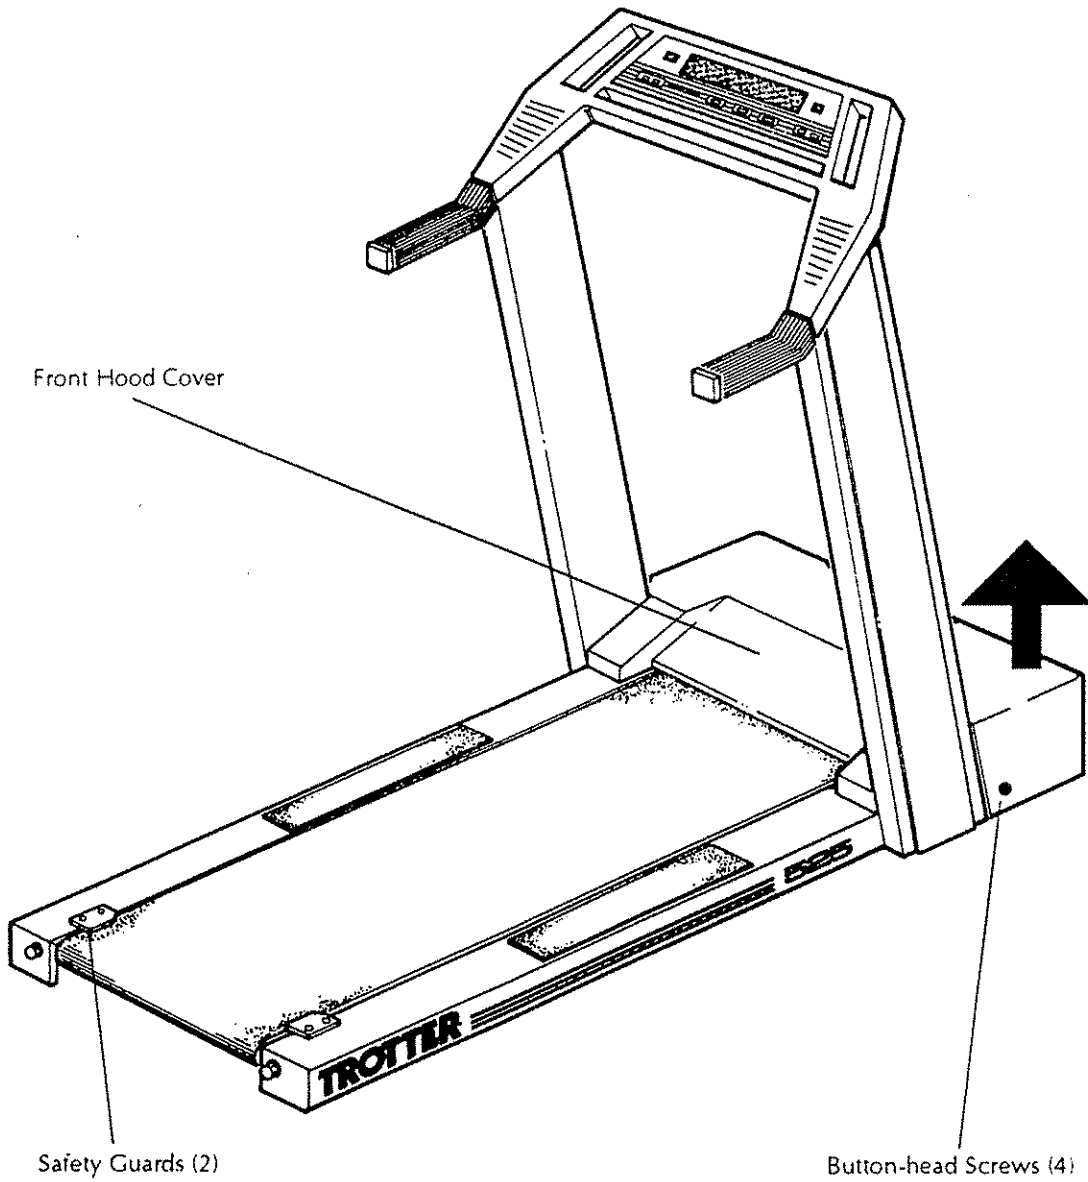

Figure 3-3: Removing/Replacing the Front Hood Cover
3. Remove the front hood cover. Refer to Figure 3-3 and complete the following:
5. Install the front hood cover. Refer to Figure 3-3 and complete the following:
2. Remove the front hood cover. Refer to Figure 3-3 and complete the following:
9. Install the front hood cover. Refer to Figure 3-3 and complete the following:
2. Remove the two safety guards. Refer to Figure 3-3 and remove the four Phillips-head screws securing the two safety guards to the chassis frame. Set the guards aside.
12. Install the front hood cover. Refer to Figure 3-3 and complete the following:
13. Place the two safety guards into their operating positions. Secure them to the chassis frame using the four Phillips-head screws. See Figure 3-3.